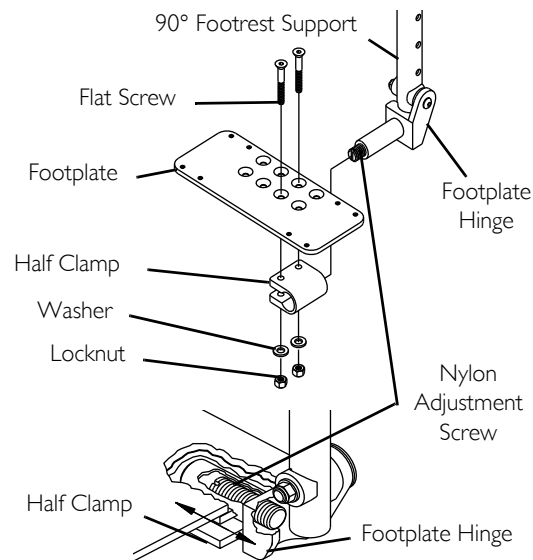
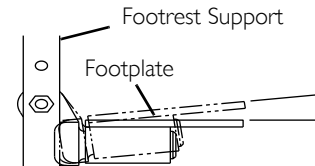

FIGURE 4 Adjusting Adjustable Angle Flip-Up Footplates
FIGURE 6 Perpendicular and/or Inversion/Eversion Adjustment
i For this procedure, refer to FIGURE 4 on page 54. Observe the angle of the footplate for reinstallation. The settings for positioning the footplates on the half clamps may vary for each footplate.
For this procedure, refer to FIGURE 4 on page 54 and FIGURE 5.
1. Loosen, but DO NOT remove, the two flat screws, washer and locknuts that secure the footplate to the footplate hinge (FIGURE 4).
For this procedure, refer to FIGURE 4 on page 54 and FIGURE 6.
1. Insert a flathead screwdriver through the half clamp on the footplate (FIGURE 4).
2. Slowly turn nylon adjustment screw in or out until footplate is perpendicular to the footrest assembly or the desired inversion or eversion is obtained (FIGURE 6).